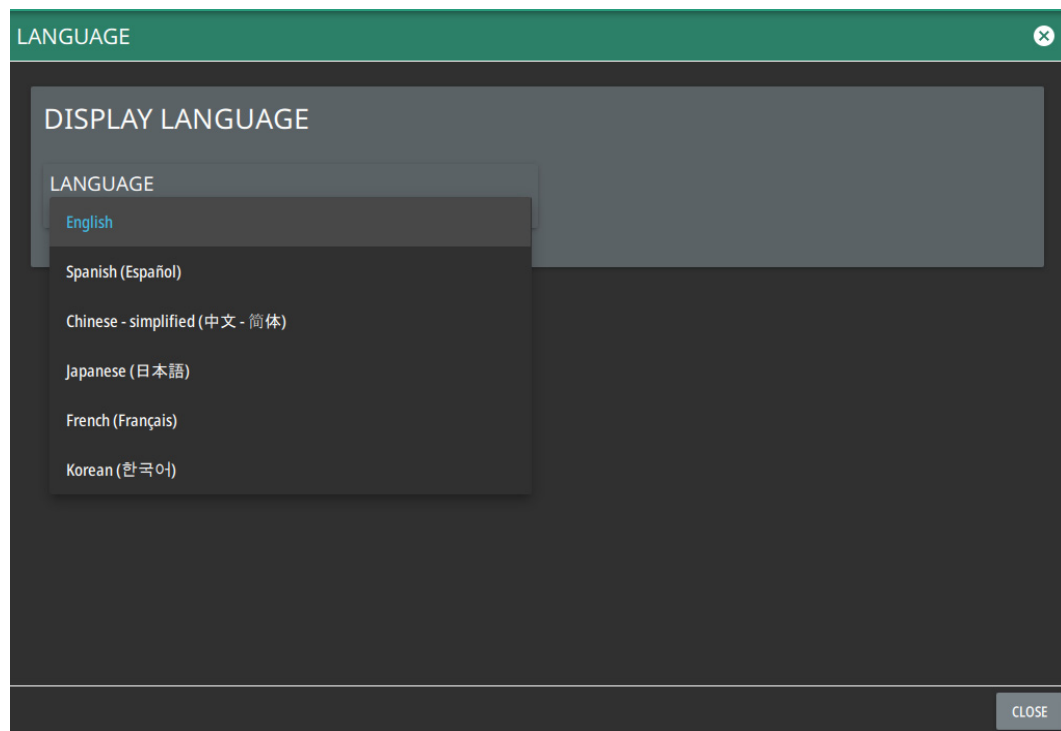

Figure 2-35. Language Settings
3. Select the **LANGUAGE** drop-down menu and select a desired display language as shown in the Figure 2-35.